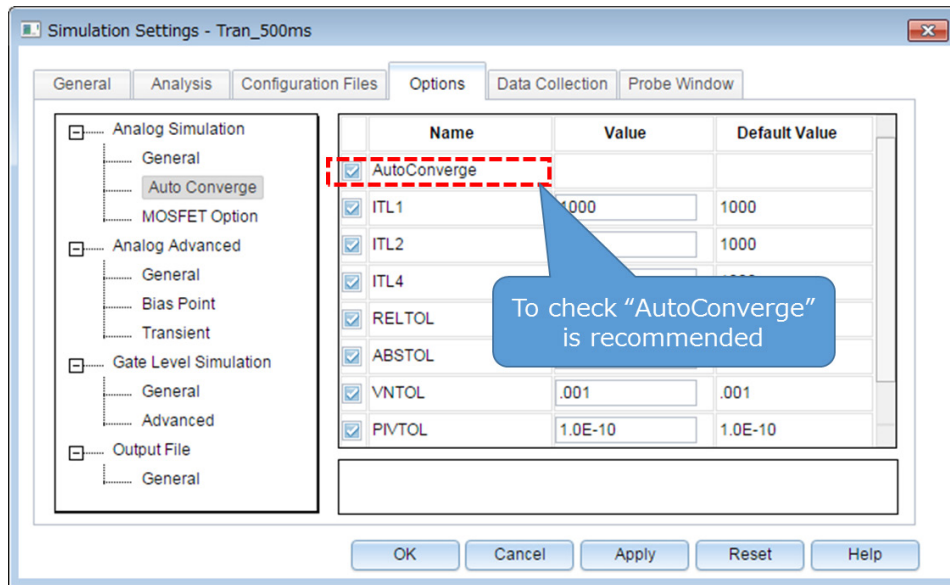

Figure 5.4 Simulation Settings - Options dialog box
3. Click the **Options** tab to choose analysis options. For the simulation of our model, it is recommended to check **Analog Simulation - Auto Converge - AutoConverge** as shown in Figure 5.4 to enable the automatic convergence feature.